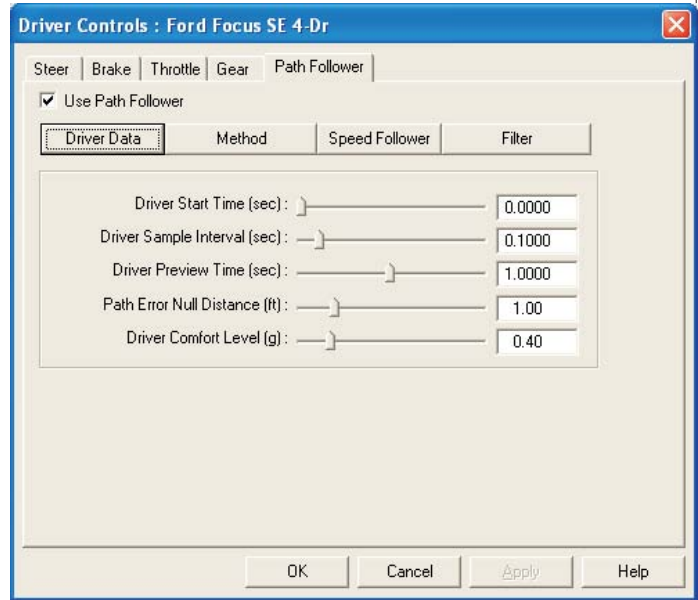

Figure 1 - *HVE* Path Follower, Driver Data dialog
- Turn on the *HVE* Path Follower. This is done by choosing *Driver Controls* from the Set-up menu, then choosing *Path Follower* and clicking the *Use Path Follower* check box (see Figure 1). The model will be used for the selected vehicle when the event is executed.